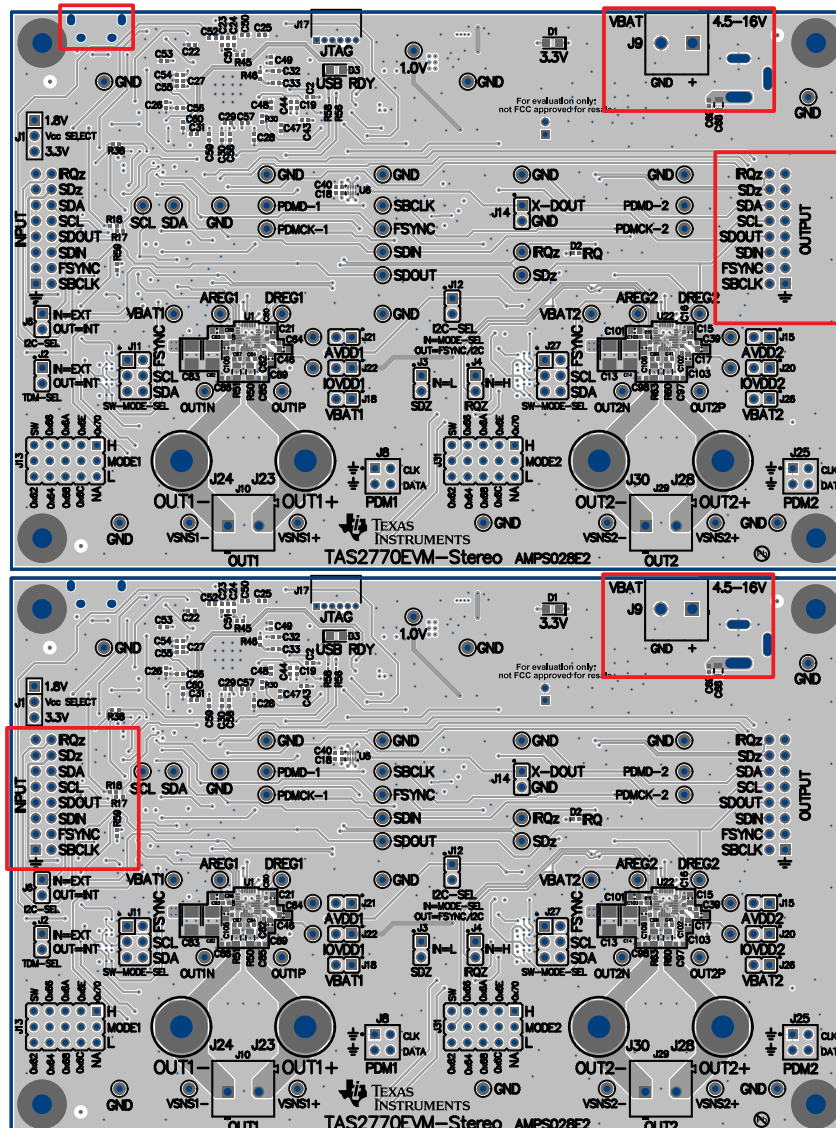

Figure 7. Multichannel Setup
2. Connect up to four TAS2770EVM-STEREOs together using connectors J5 and J7 (see Figure 7).
4. The left-most board must have jumpers set to match the stereo configuration. On all other boards, insert a jumper on J2 and J6 (see Figure 7 for details).